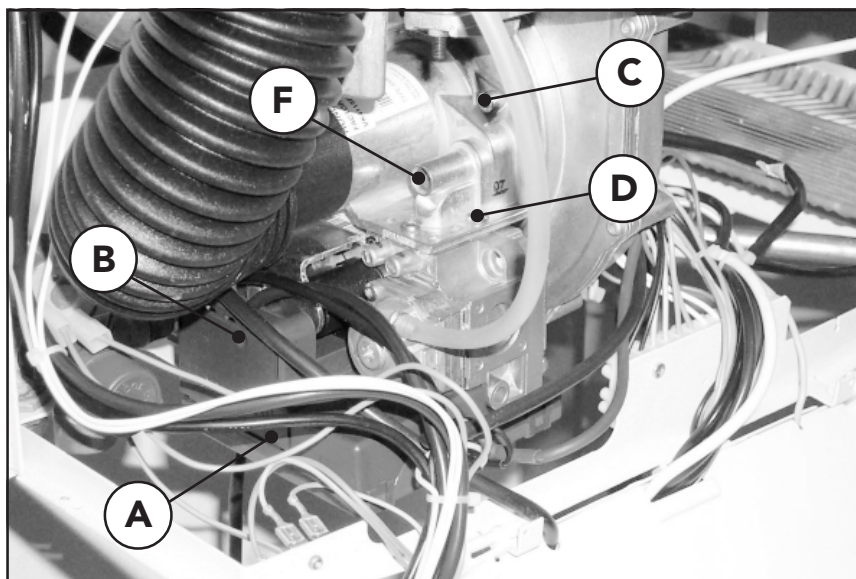

Fig. 19
If the appliance has to be used with a gas other than the one it has been set for, it is necessary to insert (or remove) the restrictor between the gas valve and the air inlet Venturi, and operate on the regulation screw F (fig. 19) placed on the Venturi unit to regulate the CO₂ content in the flue gas to the nominal value (within +/- 0.1%) described in the following table::
- 15 If necessary, slowly operate on the regulation screw F (fig.19) placed on the Venturi to bring the CO₂ content to the nominal value (within +/- 0.1%) expected in the table for the correspondent gas type. It is recommended to operate only on the screw F and not on the gas valve: this operation could compromise the correct functioning of the appliance